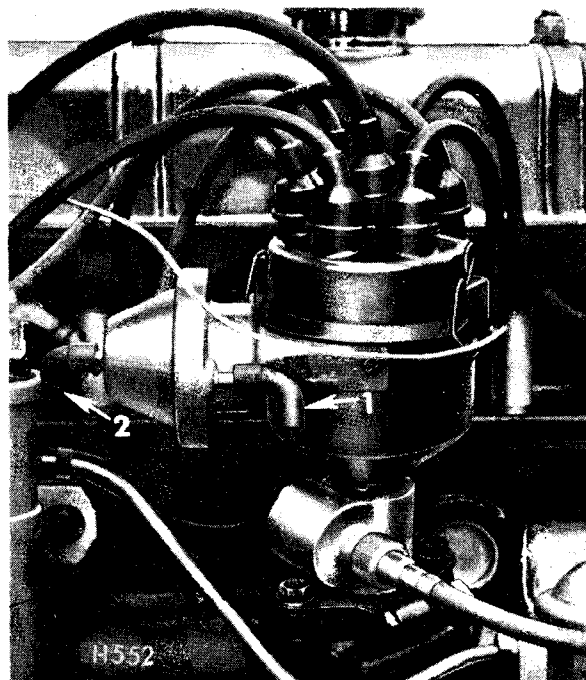

Fig. 1. Distributor, showing connections to (1) retard and (2) vacuum advance side of double acting vacuum capsule.
Distributors fitted to GT6 engines (Fig. 1) are provided with a double acting vacuum capsule, which operates in opposite directions to advance or retard the ignition.
- Slacken the distributor clamping plate bolt (Fig. 1) and rotate the distributor body until the idling mark on the crankshaft pulley aligns with the timing pointer under the beam of the stroboscopic lamp. This may necessitate readjustment of the throttle stop screws (item 1, Fig. 4) to maintain the correct idle speed.